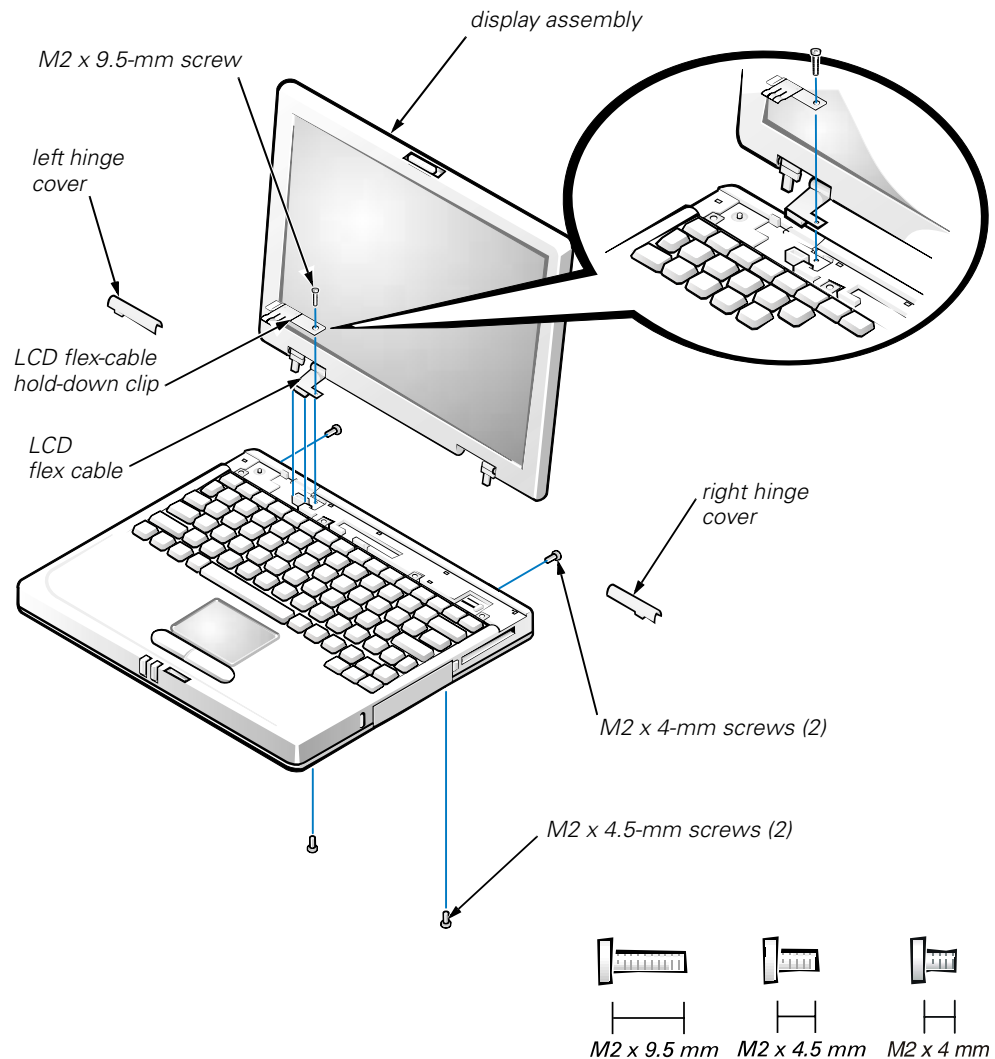

Figure 8. Display Assembly Removal
3. Remove the two silver M2 x 4-mm screws at the back of the computer that secure the display assembly to the bottom case (see Figure 8).
5. Remove the two M2 x 4.5-mm screws at the bottom of the computer that secure the display assembly to the bottom case (see Figure 8).
9. Remove the M2 x 9.5-mm screw that secures the LCD flex-cable hold-down clip and the LCD flex-cable connector to the system board assembly (see Figure 8).
3. Place the LCD flex-cable hold-down clip over the LCD flex-cable connector (see Figure 8).